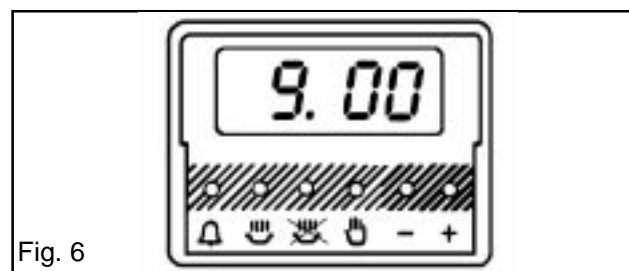

Fig. 6
- i) Ensure the electricity supply is switched ON and that the correct time of day is displayed, e.g. 9.00 a.m. as Fig. 6.